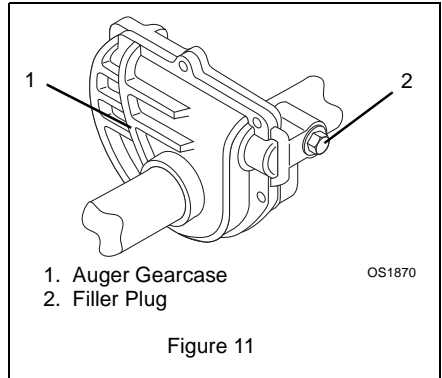

Figure 11
(Figure 11)
1. Remove filler plug (Figure 11). Lubricant must be at least up to bottom of lubricant filler hole with unit resting on a level surface.